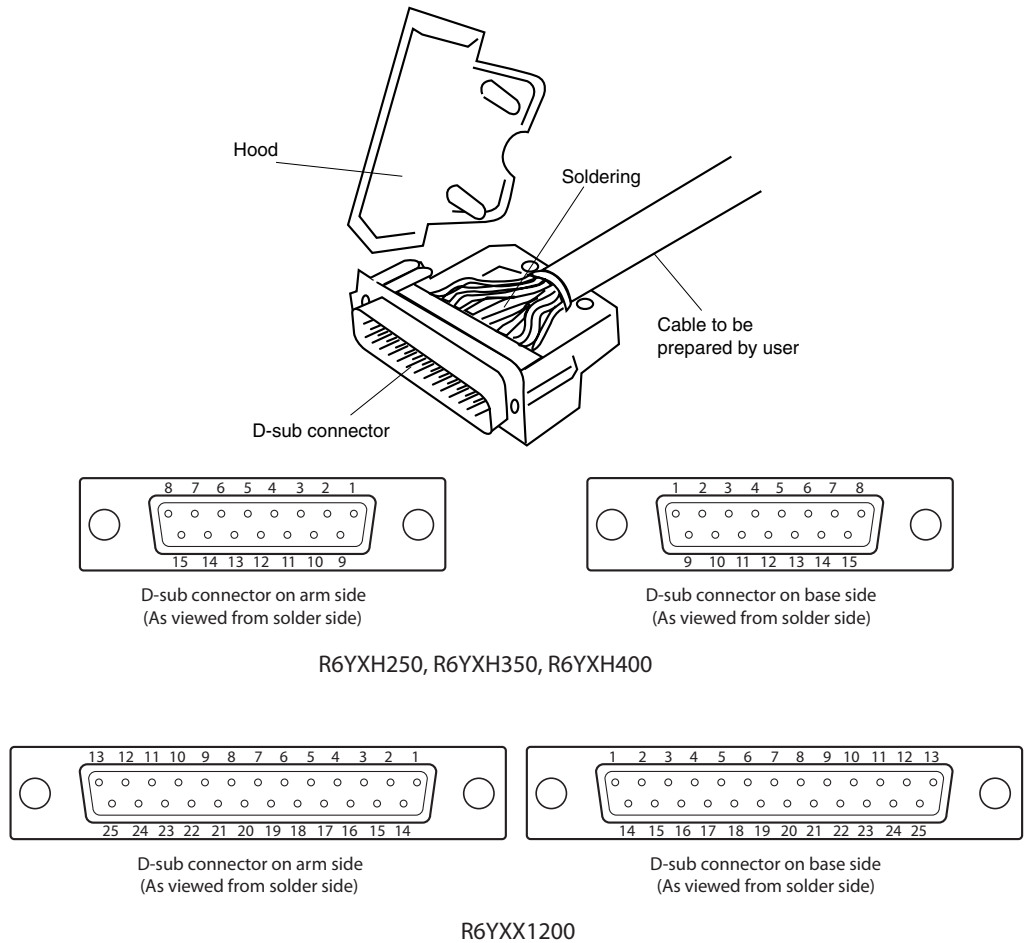

Fig. 3-9
- 4) As shown in Fig. 3-9, solder the user cable wires to the D-sub connector (supplied with the robot). Reattach the hood to the D-sub connector after soldering, then plug it into the user wiring connector.